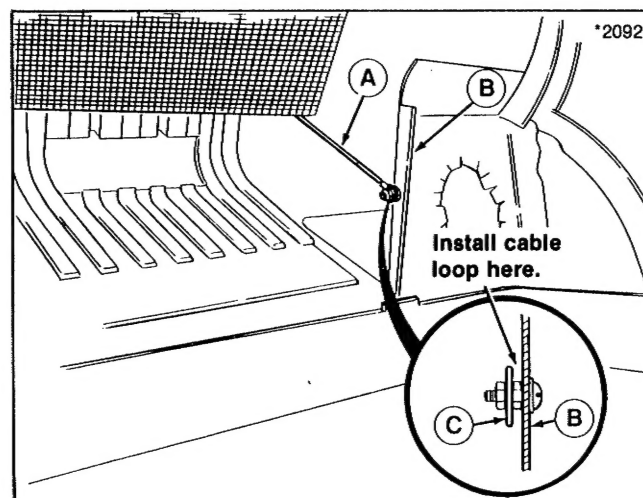

Figure 6.
8. Open cover and fasten cable (A, figure 6) to tube support (B) to prevent cover from going overcenter when opened. Loop end of cable fits over washer (C).